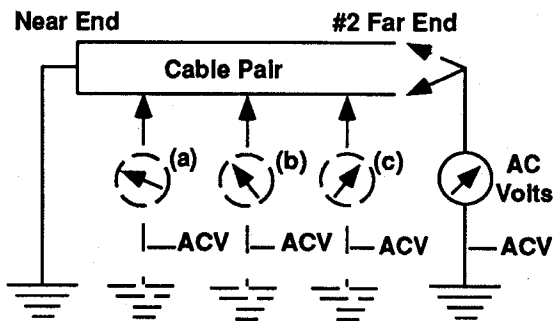

Figure 2: Measurements #2, 2a, 2b, 2c, etc.
(e) Connect the shorted pair to a good ground at the near end. Remove the short and ground connection at the far end. At the far end, measure and record the AC voltage to ground (See Figure 2). Both wires of the pair should measure the same voltage to ground. If they do not, look for physical trouble on the pair.
determine the electrical center of exposure. These are measurements 2a, 2b, 2c, etc. (See Figure 2). The electrical center is the point where the voltage to ground is equal to one half (1/2) the voltage to ground at the far end (measurement #2).
**5.05** Normally, the best location for an INT for solving 50/60 Hz problems is at the electrical mid-point of the exposed section. The result will be that the voltage-to-ground on the pairs will be nearly equal on each side of the INT, with this voltage value being about one-half the overall unneutralized voltage. The electrical mid-point is determined by measurements #2 (Figure 2). When the overall 50/60 Hz voltage is reduced by a mid-point located INT, the harmonics (noise-to-ground or power influence) of 50/60 Hz that produce the audible circuit noise are usually reduced. This location reduces power influence at the subscriber while also assuring minimum voltage-to-ground at any point on the cable.